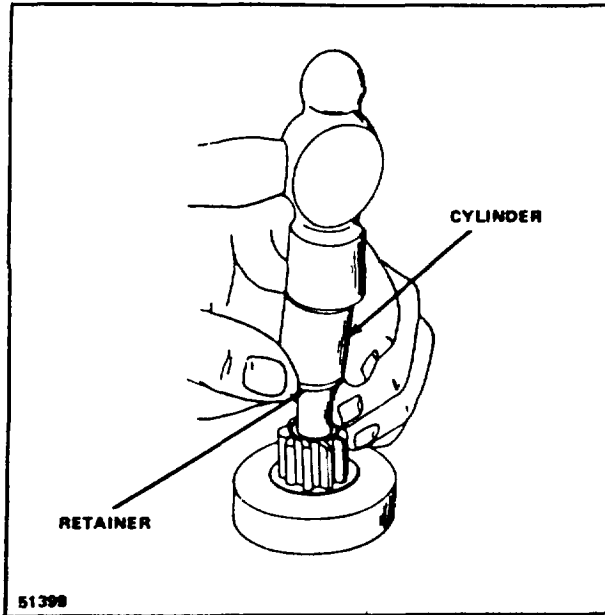

Figure 58. Removing Retainer from Snap Ring
7. Remove the pinion from the armature by sliding a metal cylinder onto the shaft. Using a hammer, strike the metal cylinder against the retainer, driving the retainer toward the armature core and off the snap ring. Refer to Figure 58.